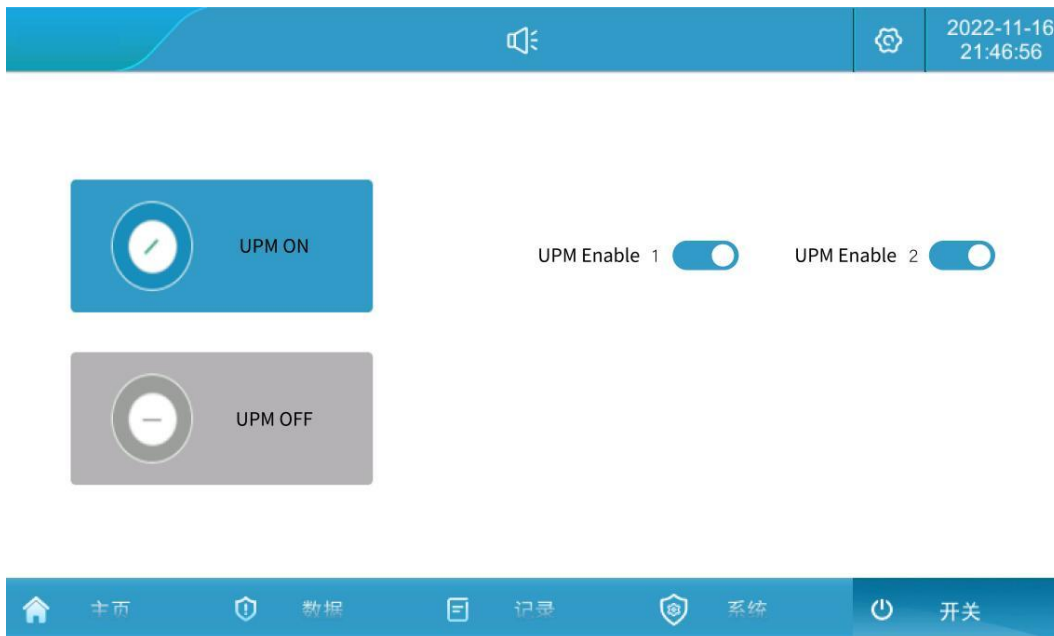

Figure 5-3 Switching Interface
- 3、 In the touch screen “switch” page to enable all the modules (you can also turn on some of the modules according to the actual need, the number of modules to the actual delivery shall prevail, in order to two modules, for example), click on the “system on” , the normal turn on time of about 30 seconds, as shown in Figure 5.3.
- 4、 Converter shutdown: When the converter is in operation, click "Converter shutdown", as in Figure 5.3.